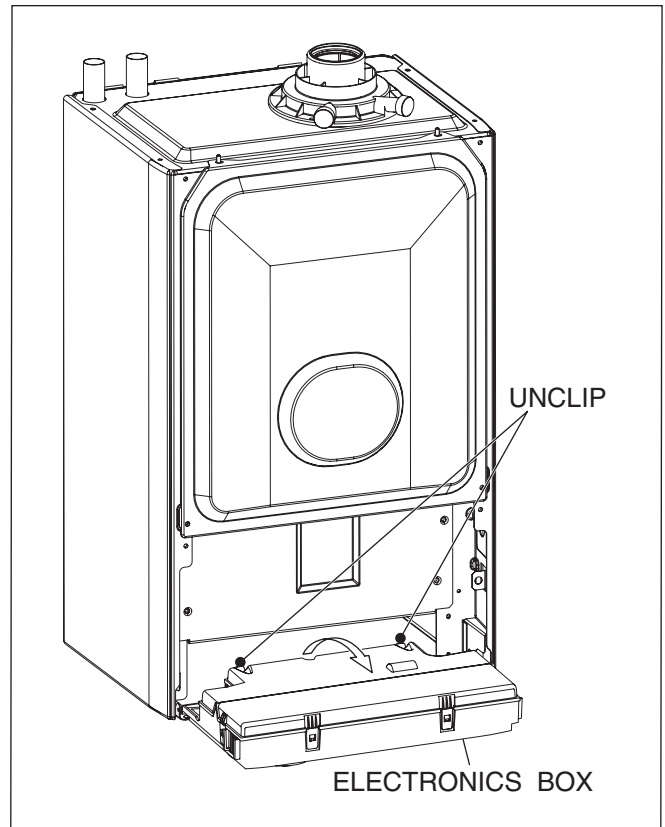

Fig. 4.7 Mains Supply Connection
- Lower the electronics box, see fig. 4.7.